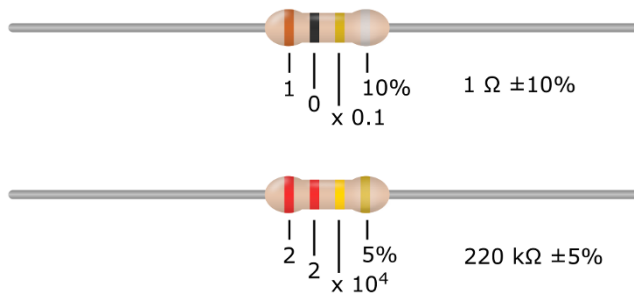

Figure 5-10: Decode the resistor's stripe pattern to determine the resistance.
- ✓ **Red-red-yellow-gold:** A resistor with red (2), red (2), yellow (4 zeros), and gold ($\pm 5\%$) bands (see Figure 5-10, top) provides a nominal resistance of 220,000 Ω , or 220 k Ω , which could vary up or down by as much as 5% of that value. So it could have a resistance of anywhere between 209 k Ω and 231 k Ω .
- ✓ **Brown-black-gold-silver:** A resistor with brown (1), black (0), gold (0.1), and silver ($\pm 10\%$) bands (see Figure 5-10, bottom) provides a resistance of 10×0.1 , or 1 Ω , which could vary by up to 10% of that value. So the actual resistance could be anywhere from 0.9 Ω to 1.1 Ω .